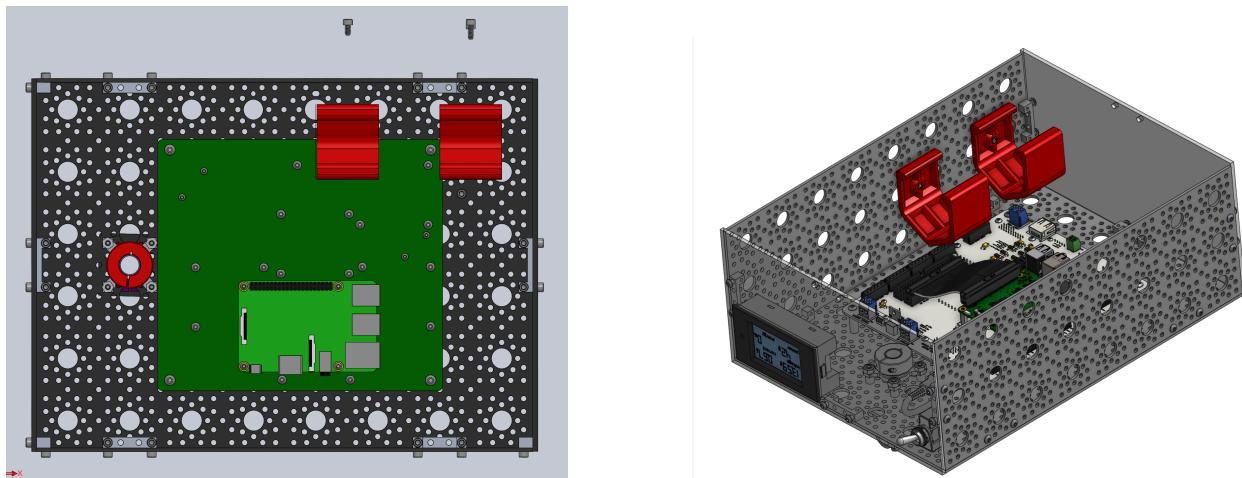

Figure 13: Bottom plate assembly
7. **Install the battery holders:** Mount the Battery holders onto the body assembly using screws **B1** as shown in Figure 13.